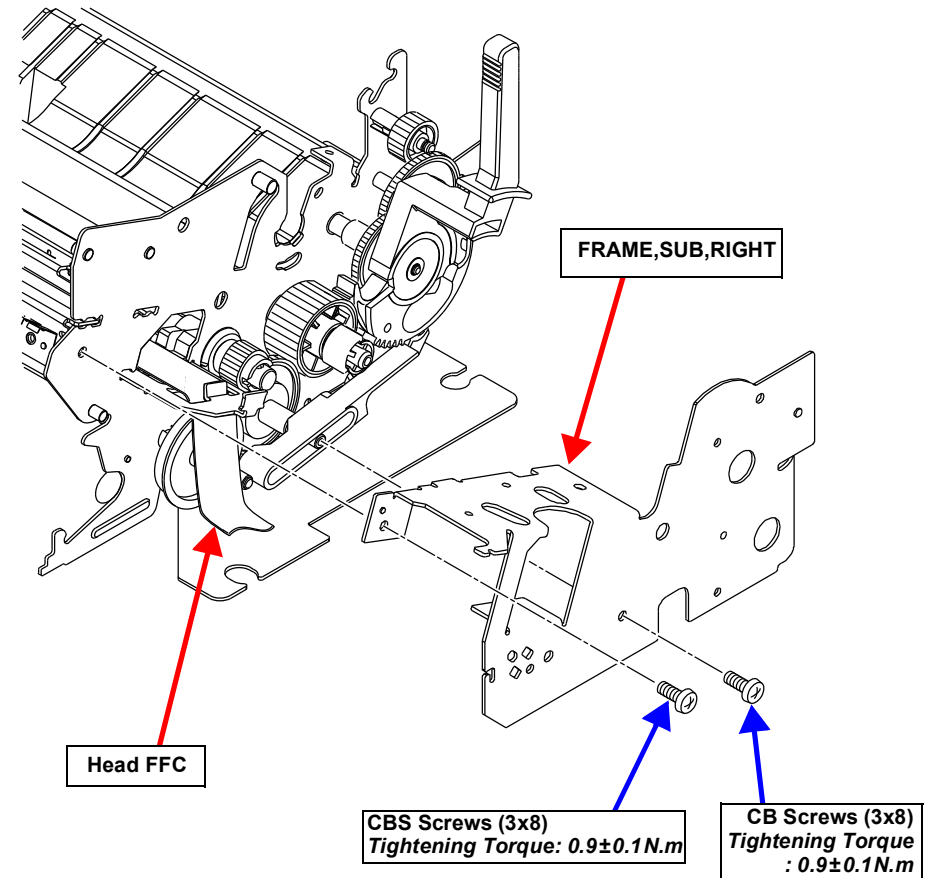

Figure 4-20. PF Gear Train Disassembly 1
4. Remove the head FFC from the FRAME,SUB,RIGHT of the Printer Mechanism. (See Figure 4-20)